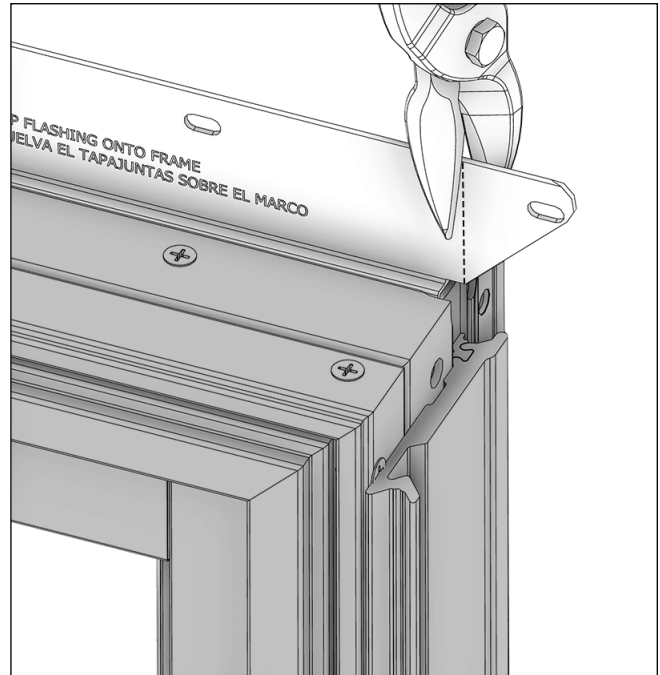
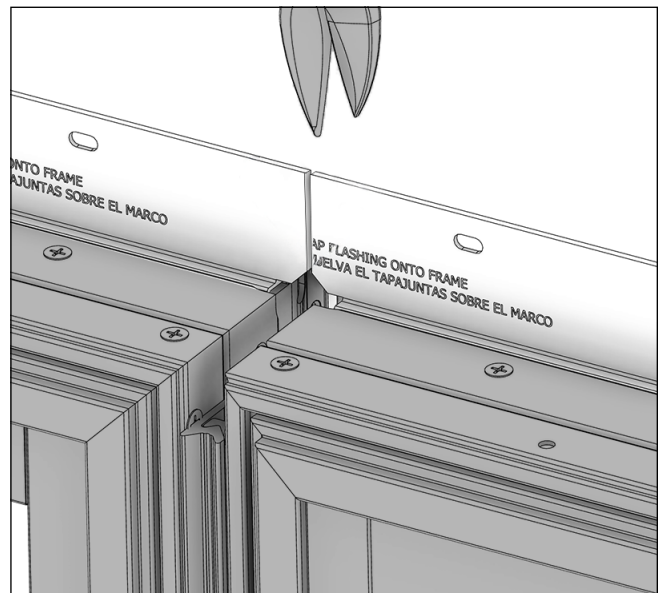

Figure 64 Trim mounting flange
Figure 65 Trim joined mounting flange
5. Mounting flange may need to be trimmed to fit assembly. (Through jamb and masonry installation do not require mounting flange.) See Figure 64 and Figure 65.